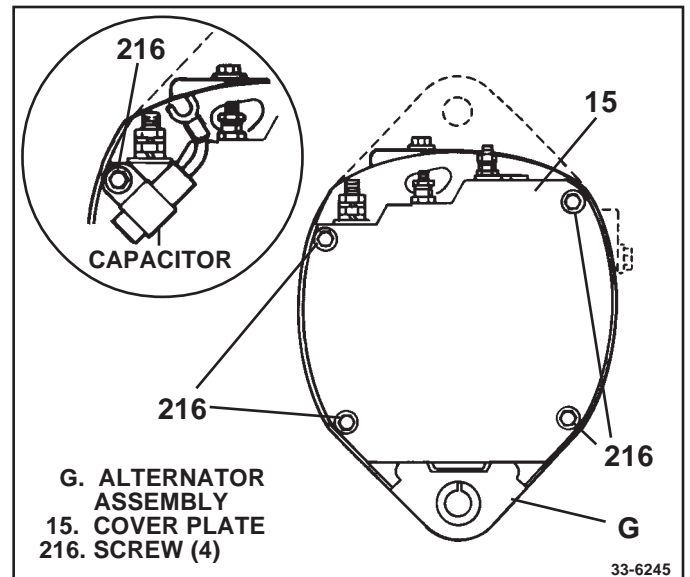

Figure 39. Installing Cover Plate
30. After varnish is dry, install rectifier end cover plate (15) with four attachment screws (216). If removed, replace capacitor (DRA 198544) with one screw (216). (See Fig. 39)